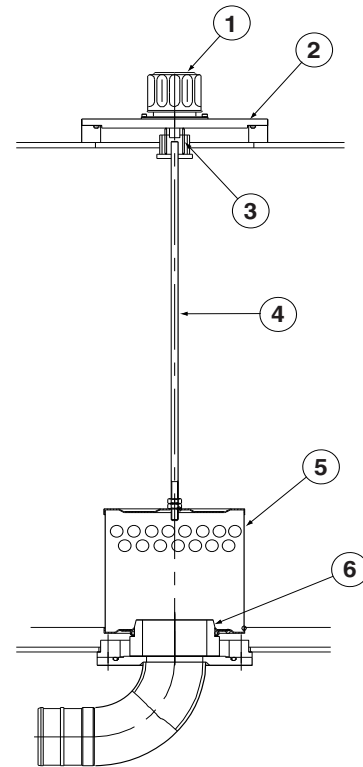

Figure 97
11. Place spring (3, Figure 97) on rod (4) and assemble cover (2).